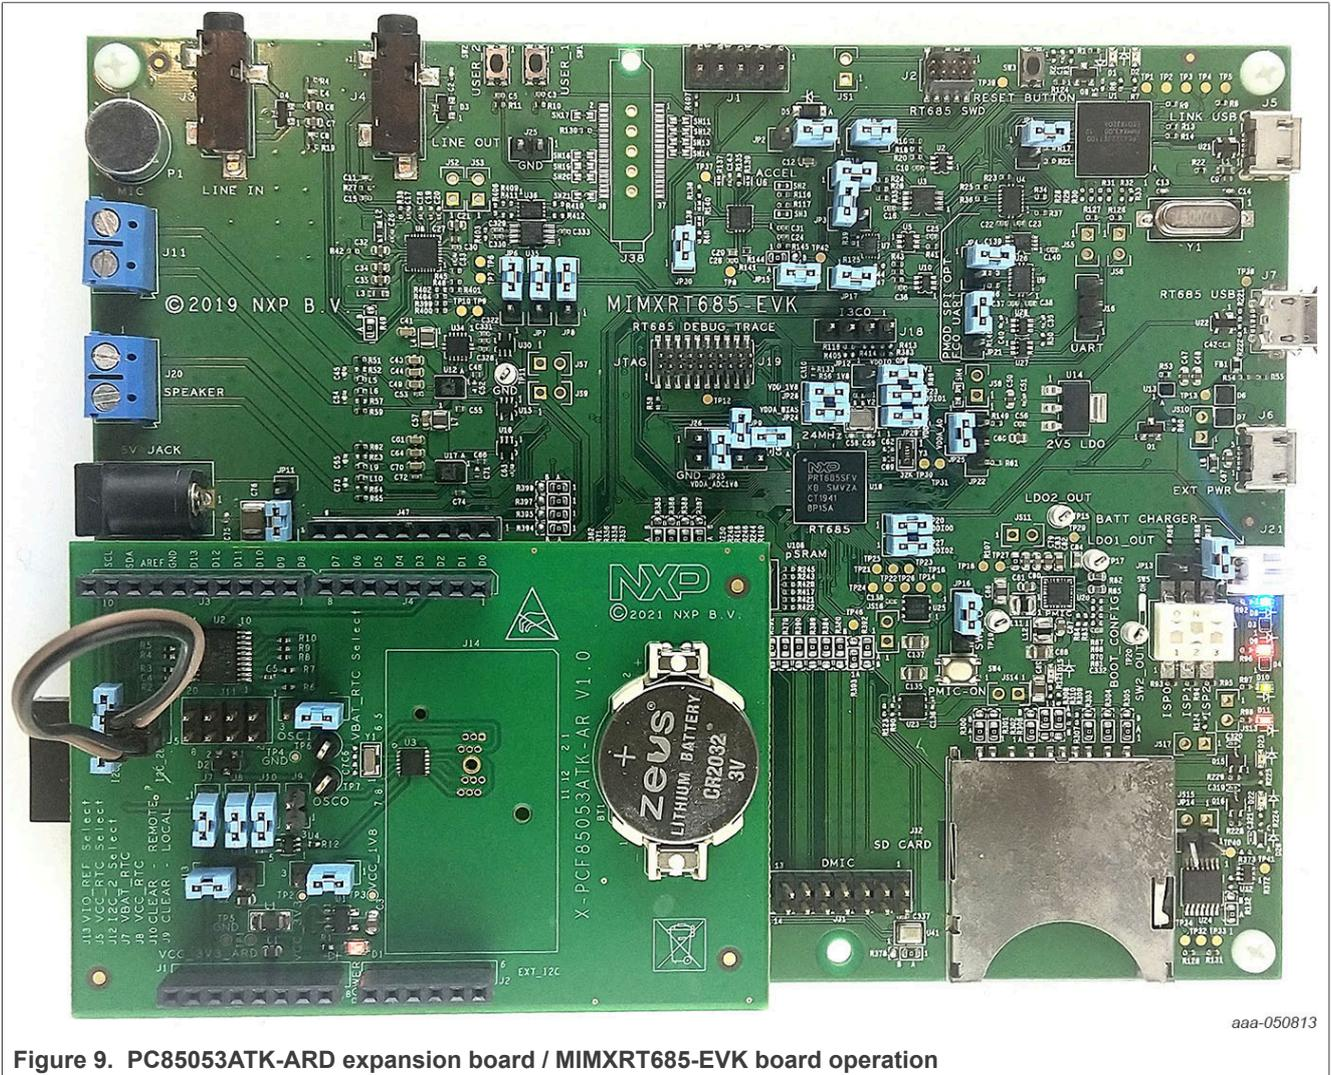

Figure 9. PC85053ATK-ARD expansion board / MIMXRT685-EVK board operation
2. Configure J12 jumper header as follows: connect pin 3 to pin 6, and pin 4 to pin 5 using the two jumper wires (see Figure 9)